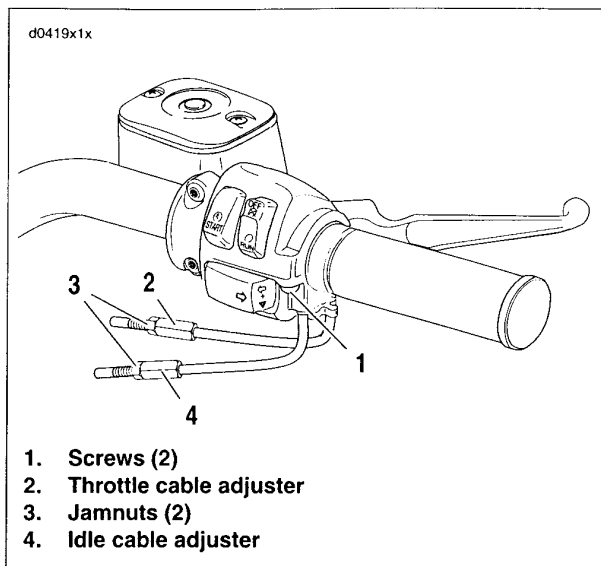

Figure 1-55. Throttle Cable Adjusters
1. See Figure 1-55. Remove two screws (1) to separate the upper handlebar housing from the lower housing.
5. When assembling the handlebar housing, tighten both screws (1) to 35-45 in-lbs (4.0-5.1 Nm).
1. See Figure 1-55. Turn the cable adjusters (2, 4) and jamnuts (3) as short as they will go. Both cables should have zero adjustment at the start of this procedure.